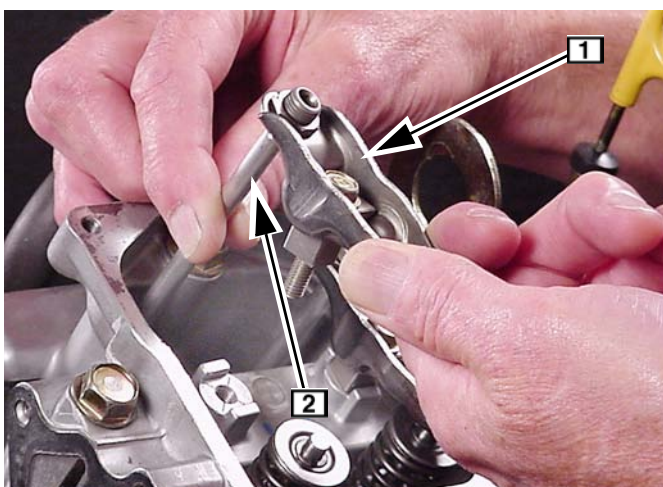

Fig. 55
2. Remove rocker arms **1** and pushrods **2**, Fig. 55.